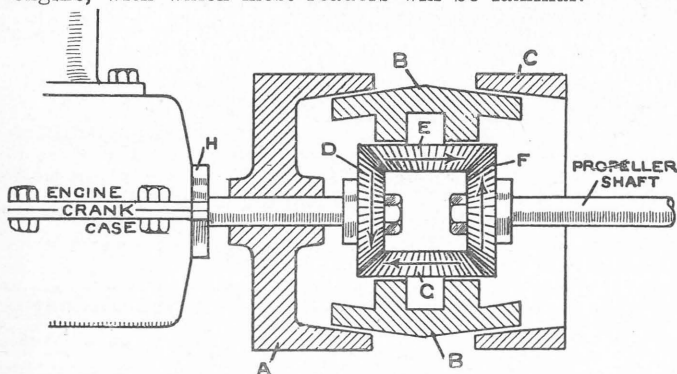

Fig. 4.—Double cone clutch and differential reverse gear.
We now come to a different kind of gear, in which clutch and reverse gear are combined and worked by a single lever. Fig. 4 shows a diagram of the arrangement. There is the cone clutch shown in Fig. 1, the flywheel (A) being faced internally, and there is the other cone member (B), engaging with it, only in this case B is tapered each way. If moved to the left it engages with A; if moved astern, that is to the right, it engages with another cone (C), which, however, is fixed in the boat so that B is held fast when engaged with it. Inside B are four bevel gear wheels (D, E, F, G), all meshing together as shown. D can slide on a squared portion of the engine shaft, E and G are free to revolve, but are carried by the double cone (B) and rotate with it. F is keyed to the propeller shaft.